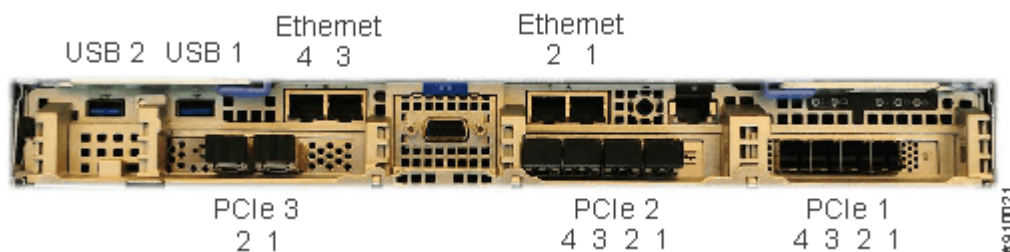
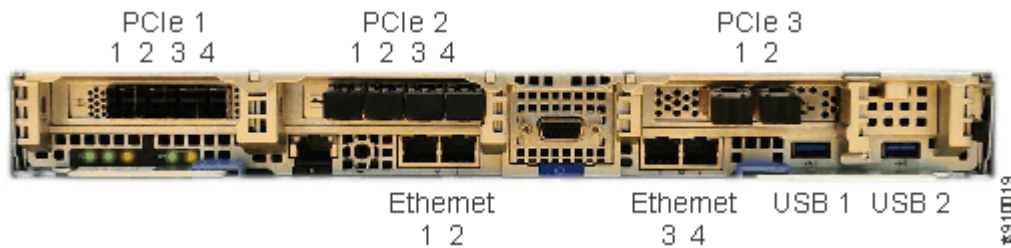

Figure 57. Ethernet ports on canister 1 (upper canister)
Figure 58. Ethernet ports on canister 2 (lower canister)
1. Connect Ethernet port 1 of each node canister in the system to the IP network that provides connection to the system management interfaces, as shown in Figure 57 on page 92 and Figure 58 on page 93.